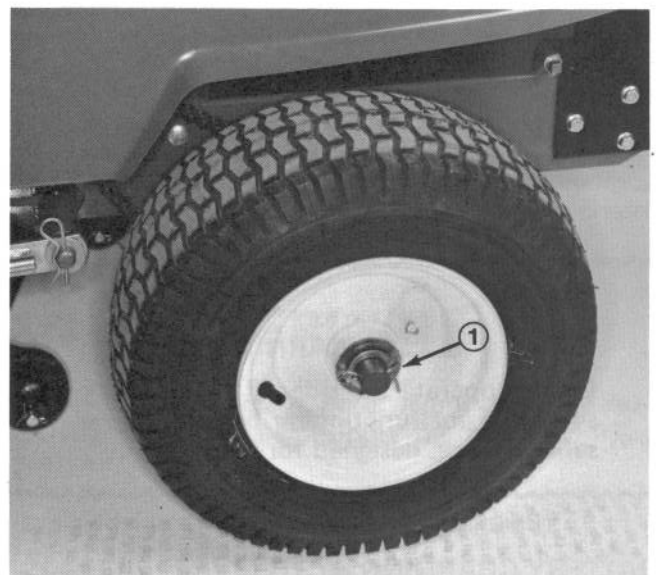

Figure 43
4. Remove the cotter pin and washer and remove the wheel from the axle (Fig. 43).